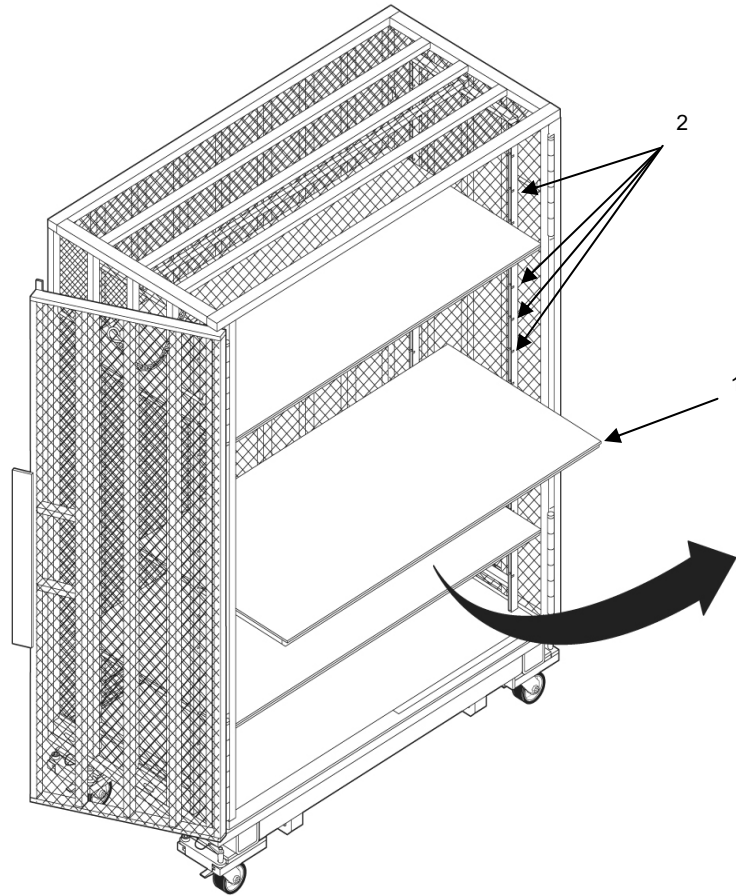

Figure 3-8. Adjusting or Removing Shelves.
3. Pull the shelf (Figure 3-8, Item 1) straight out from the cage and set aside.
4. Align shelf with the appropriate adjustment slot (Figure 3-8, Item 2) and slide the shelf into the cage.